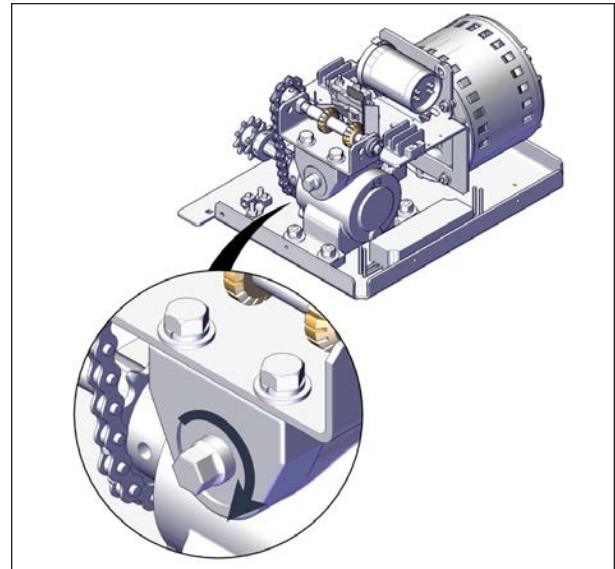

FIGURE 71: OPERATOR EXTENSION SHAFT
3. Use 1/2" (13 mm) hexagonal socket wrench to raise or lower the spa cover by turning the operator extension shaft, see Figure 71.